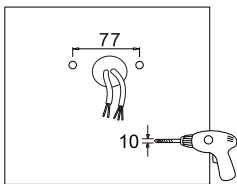

Figure 6
3.YOKE MOUNTING (YM)
Step 1: Drill holes on the wall as shown.(Figure 6)